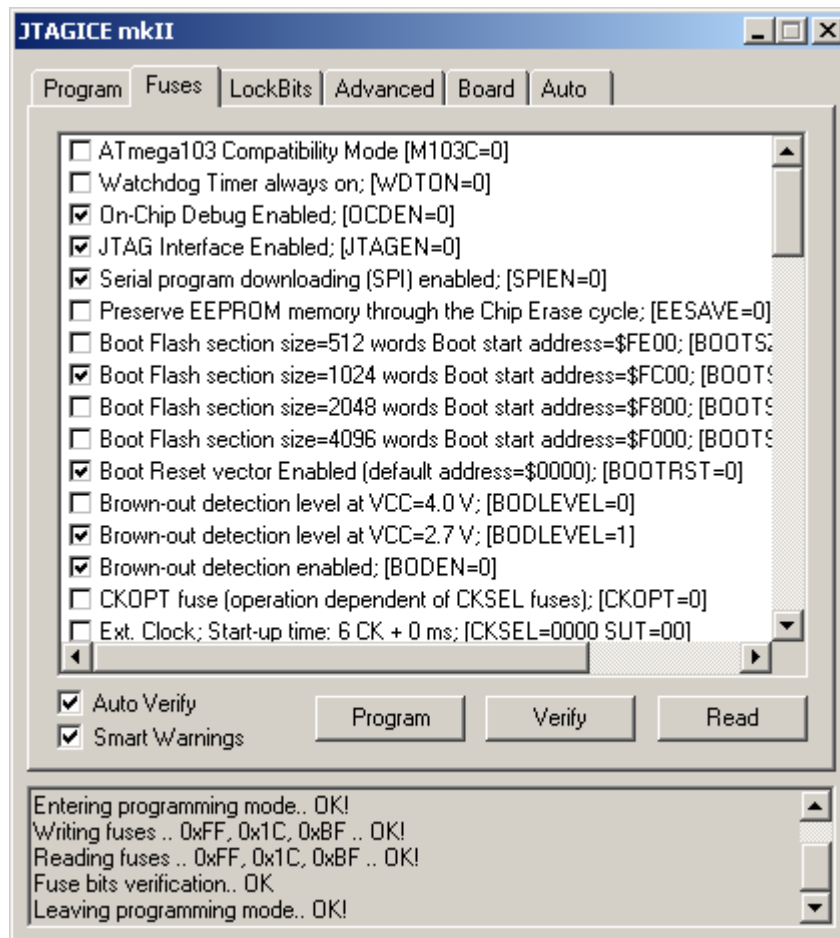

Figure 24: JTAG ICE mkII Fuses Dialog Window
- Open AVR Studio and click on the AVR button. When AVR Studio detects the programming device connected to the CC2420DB the programming settings window will appear. Select the **Fuses** tab: Please refer to figure 24.
- Disable the *Preserve EEPROM memory through the Chip Erase Cycle* fuse and click on the **Program** button. Examine the fuses dialog window for proper fuse programming. Please refer to figure 24.